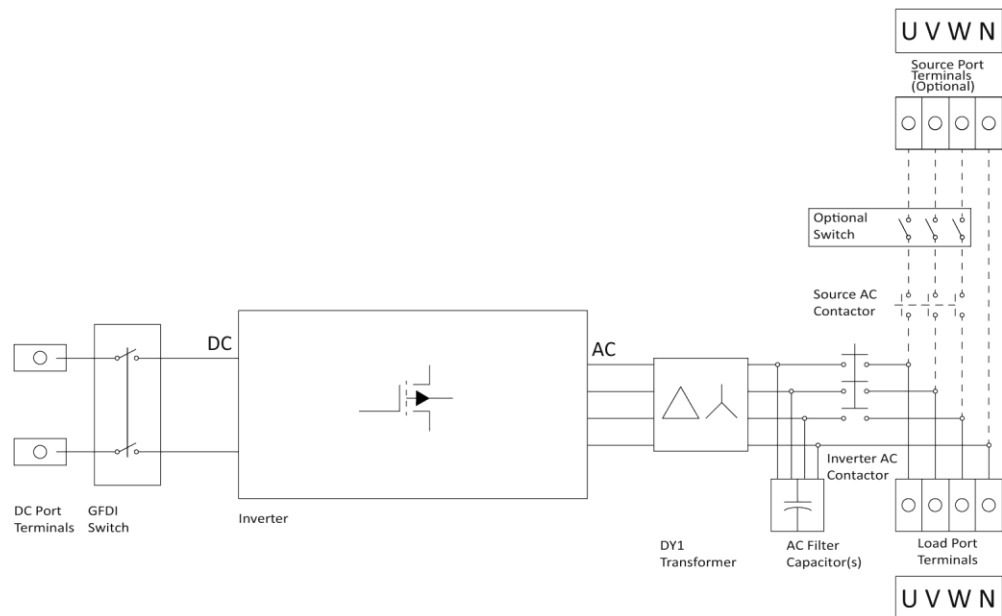
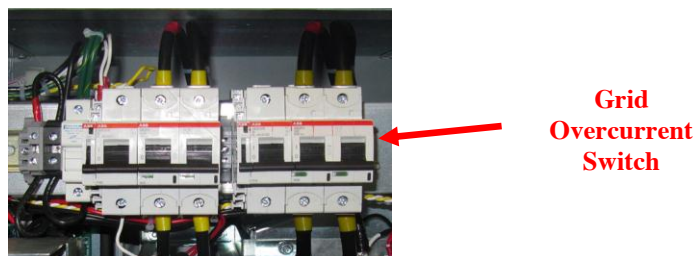
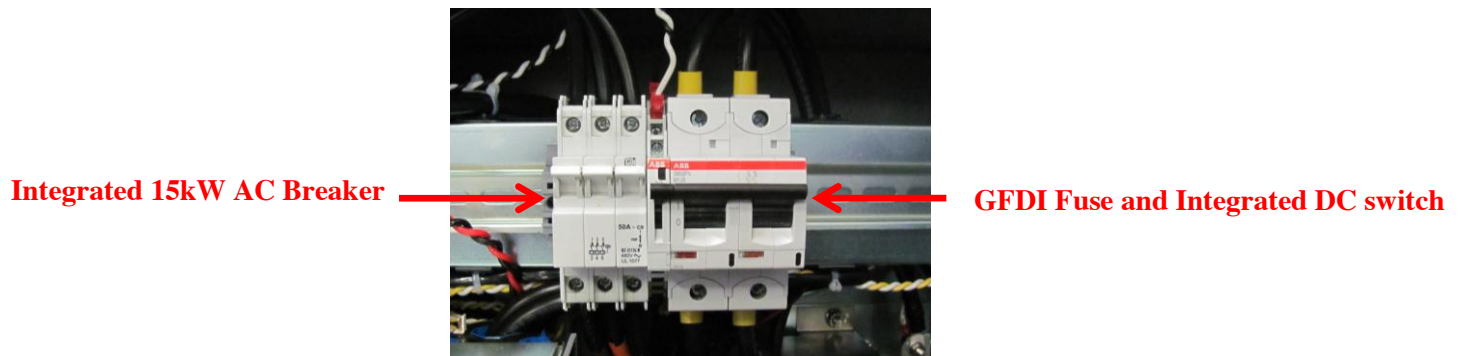

Figure 3: Functional power diagram of the GTIB-30.
Figure 7: Picture of GTIB-30 Control Panel showing optional Grid Overcurrent Switch.
Figure 8: Integrated 15kW AC Breaker.
A functional block diagram of the GTIB-30 power circuit is shown in Figure 3. This diagram provides information to the interested reader but does not need to be understood for successful installation.
The GTIB-30 consists of a single bi-directional DC-AC stage. An optional internal manual utility switch can be provided. (Figure 7) This internal switch is not the same as an external utility grid disconnect switch. An internal switch is provided on the DC port. (Figure 8) This is not the same as the external disconnect switch.
The GTIB-30 may contain an optional integrated overcurrent switch that can be used to connect and disconnect the Grid Port from parts of the GTIB-30 system. The electrical location of this three-phase overcurrent switch is shown in the functional power block diagram in Figure 3 in Section 2.1.3. This switch is open when the switch is in down position (as shown in Figure 7), tripped when in the center position and closed when in the up position.
The GTIB-30 may contain an optional integrated 15kW AC breaker that can be used to limit the power output of the GTIB-30 system to 15kW. The electrical location of this AC breaker is shown in Figure 8. This switch is open when the switch is in down position (as shown in Figure 7), tripped when in the center position and closed when in the up position (as shown in Figure 8).
The GTIB-30's integrated battery (DC) switch is shown in Figure 7. The electrical position of this switch is shown in the functional power block diagram in Figure 3 in Section 2.1.3. This switch is open when the switch is in down position, tripped when in the center position (as shown in Figure 9), and closed when the switch is in the up position.